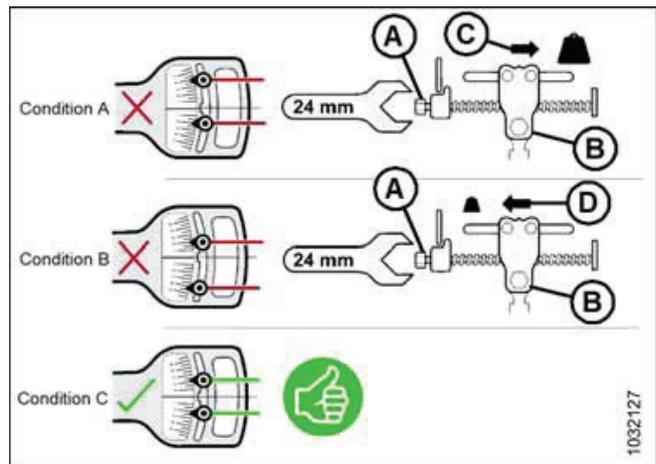

Figure 10: Wing Balance Adjustment
- c. On flex checker plate, pinch indicators (A) and (B) together with your fingers.
- d. Use tool (C) to rotate flex checker plate up until pin reaches the end of slot. The lower indicator (B) will move down to give the first reading.
- e. Use tool (C) to rotate flex checker plate down until pin reaches the end of slot. The upper indicator (A) will move up to give the second reading.
- g. Refer to Figure 10 and compare the two readings as follows: